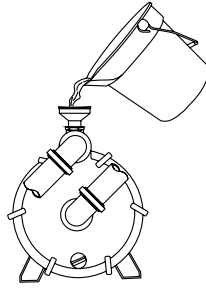

Fig. 8
5. Ensure the pump is primed. If you start to remove the primer cover and water begins to flow out, it is primed. If not, remove the cover and fill the pump with water (Fig. 8). Thread the cover back onto the funnel; tighten.